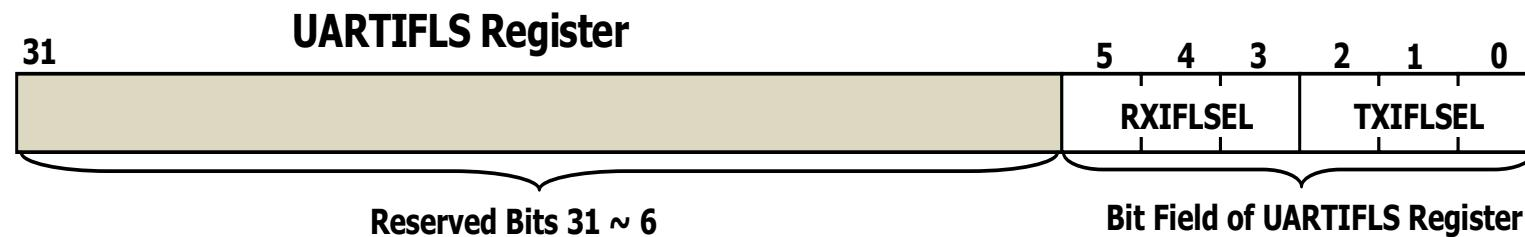

Figure 8.70 Bits configurations for UARTIFLS register.
- Figure 8.70 shows the bit configurations of the **UARTIFLS** register.